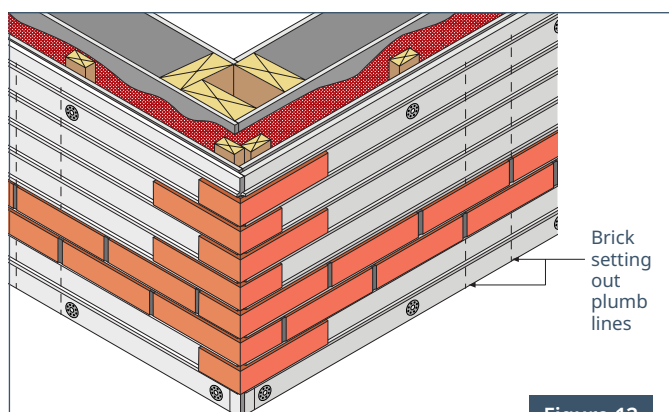

Figure 12
3. When the desired spacing is achieved, use a spirit level and marker pen to draw vertical plumb lines on the panels. These should be drawn every 5 or 6 bricks across the wall. Pairs of lines should be drawn to allow correct alignment in bond of alternating courses. Fix slips at plumb lines first before filling in remaining spaces. See Figure 12.